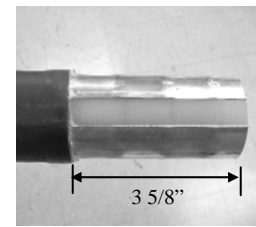

Figure 2
- 2) **Remove 3-5/8" of jacket & tape** (for riser rated cable) using razor knife, (Figure 2). (Tools required: Razor Knife)